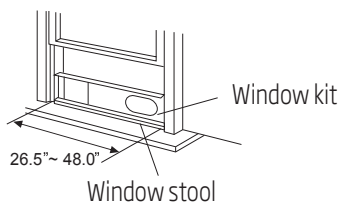

Fig. 9
2. Attach the window slider kit to the window stool. Adjust the length of the window slider kit according to the width of window, shorten the adjustable window kit if the width of window is less than 26.5 inches. Open the window sash and place the window slider kit on the window stool. Fig. 9